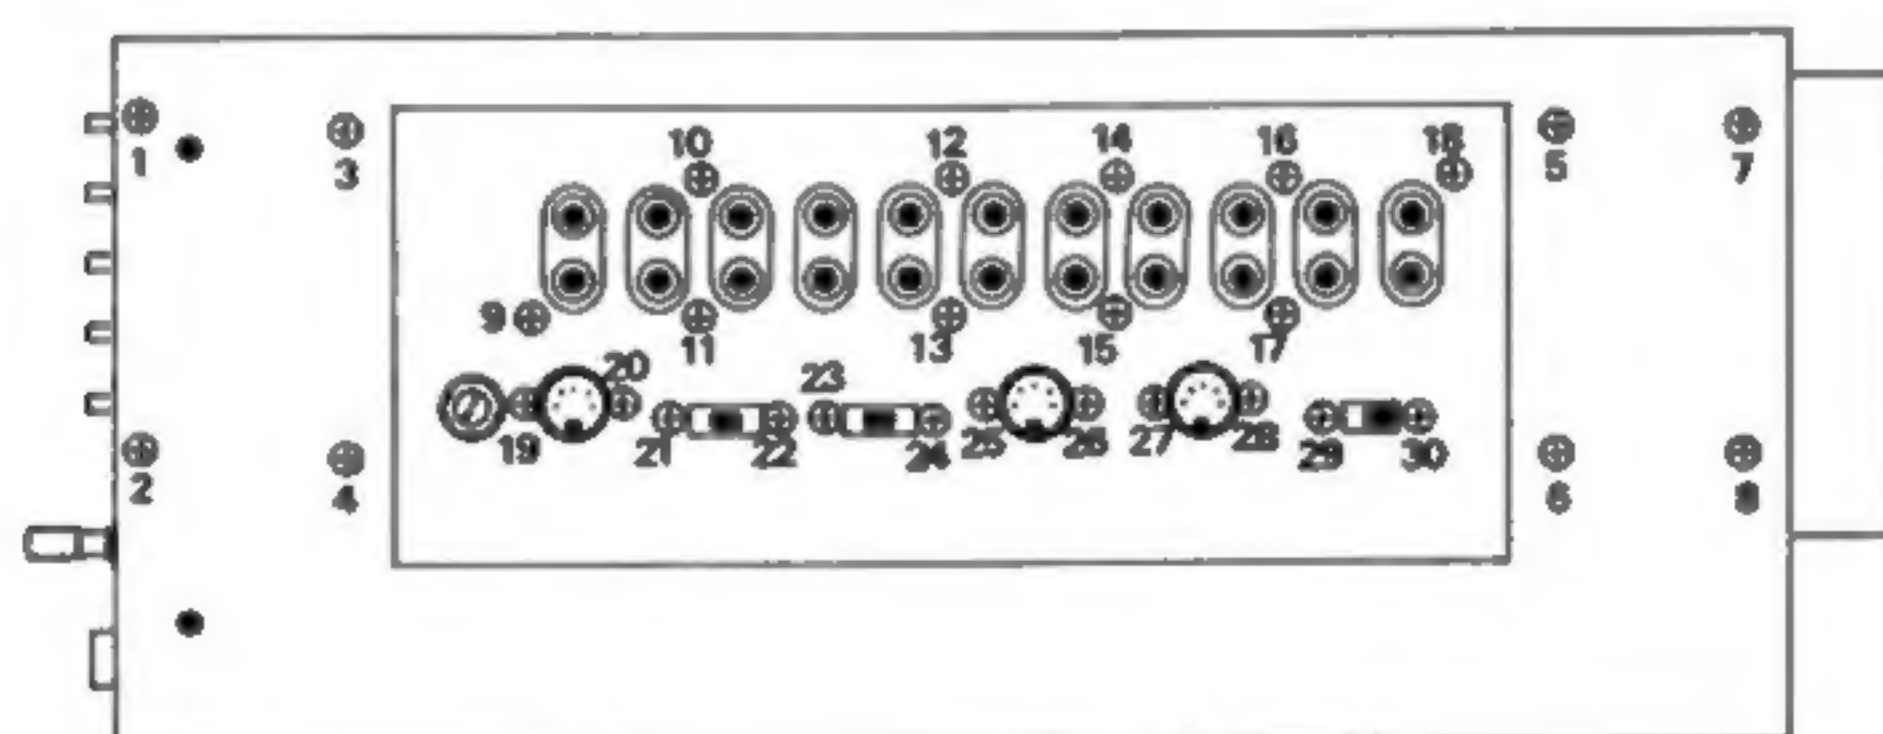

Fig. 1-5 RIGHT SIDE VIEW (1)
- After completing procedures 1 to 3, remove the side panel by unscrewing the 4 side panel mounting screws (Fig. 1-5, screws 1, 2, 7 and 8) and the 22 terminal mounting screws on the indicator panel (Fig. 1-5, screws 9-30).